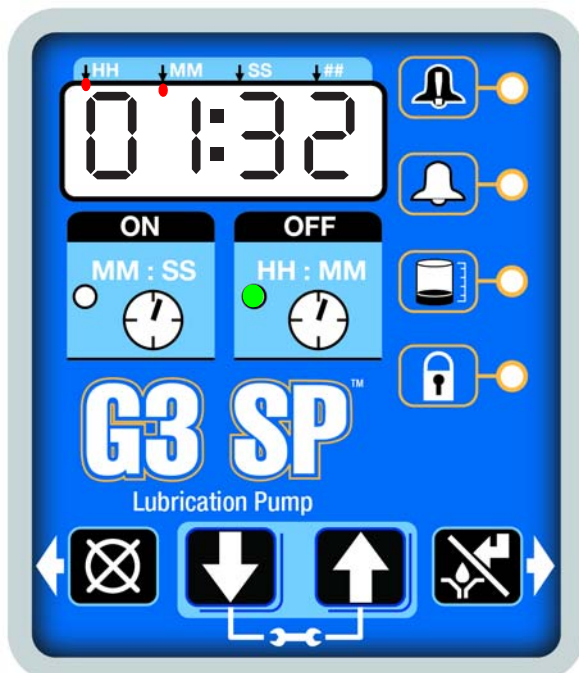

FIG. 28
1. After setup is complete, the G3 automatically begins to run the OFF Time sequence (FIG. 28).
The example shown in FIG. 28 shows an OFF Time of 1 hour and 32 minutes before the lubrication cycle begins with A8 off.
- When the Cycle count reaches zero, the pump shuts off again and the system again runs OFF Time cycle and the OFF Time LED is now again illuminated (FIG. 28).